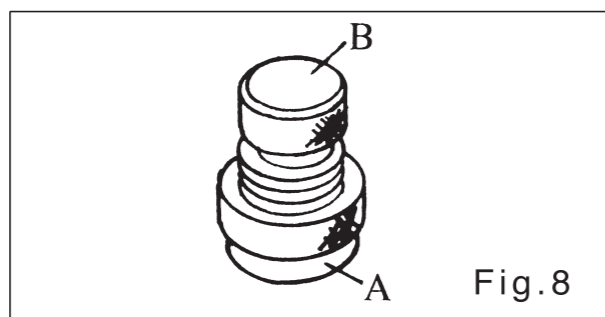

Fig.8
2. To increase the pressure of Presser Foot, to turn Adjusting Screw (B) clockwise after loosening Lock Nut (A) and to decrease the pressure turn Screw (B) counterclockwise. (Fig.8)